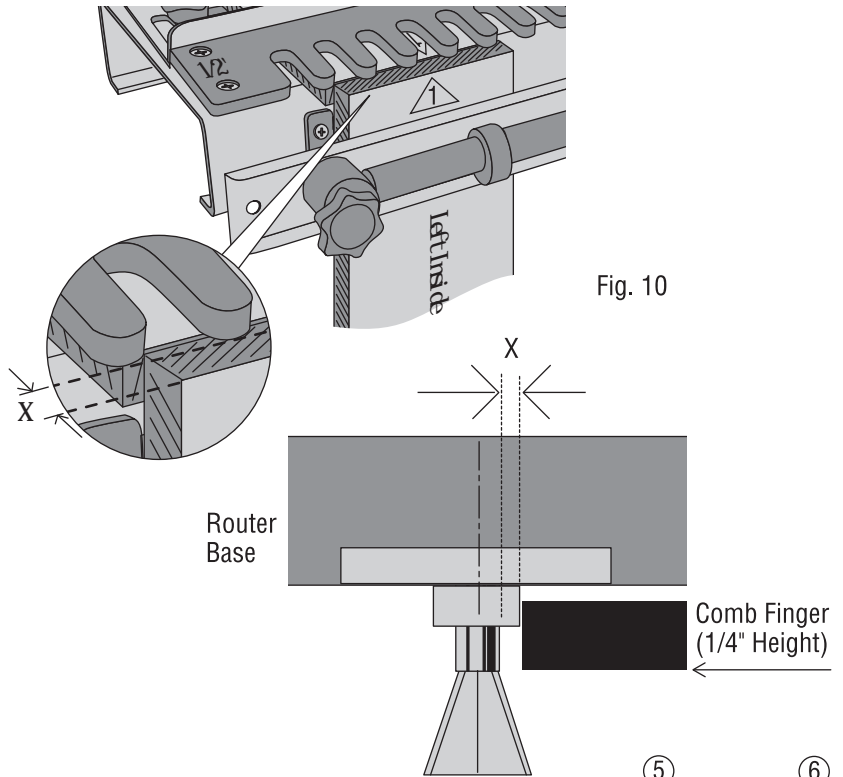

Fig. 10
- 1) You should adjust the Comb (7) using the two Comb Adjustment Knobs (5). Adjust to a distance X (See fig. 10.), which is approximately equal to 1.5 to 2 mm if the supplied router bit, router collar and comb is used.
See fig. 10.